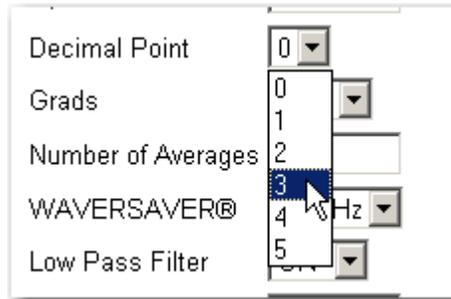

FIG. 192 INSTRUMENT SETUP/SELECTING DECIMAL POINT POSITION
Step 1. Click on the Decimal Point pull down list. (See Fig. 192)